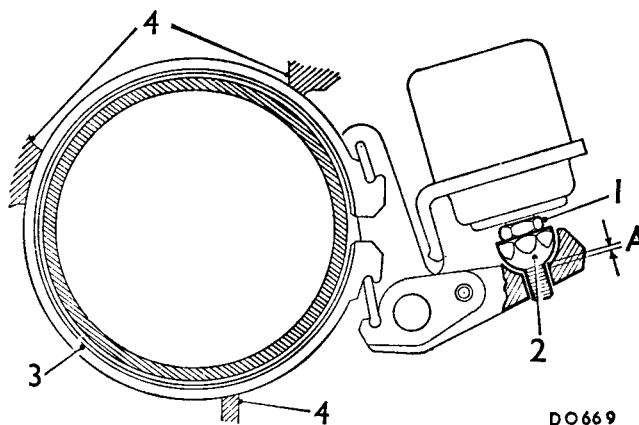

Fig. Fa.24
47. Adjust the second, third and reverse servos (see Fig. Fa.24). Slacken the locknut 1 and turn the spherical adjuster 2 until each brake band 3 is in contact with the transmission casing stops 4 and all slack is just eliminated. Turn back the adjuster nine flats to obtain the clearance 'A' and tighten the locknut, which should give the minimum clearance.